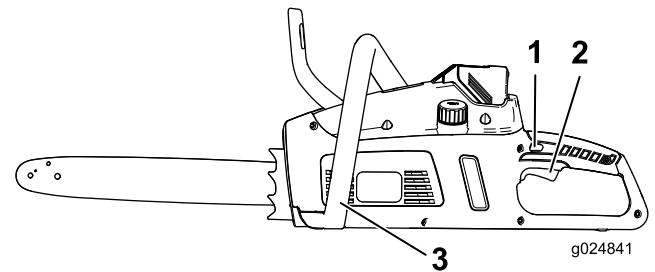

Figure 6
4. With one hand on the auxiliary handle and the other on the trigger handle, press the trigger lock, then squeeze the trigger to start the chain saw (Figure 6).